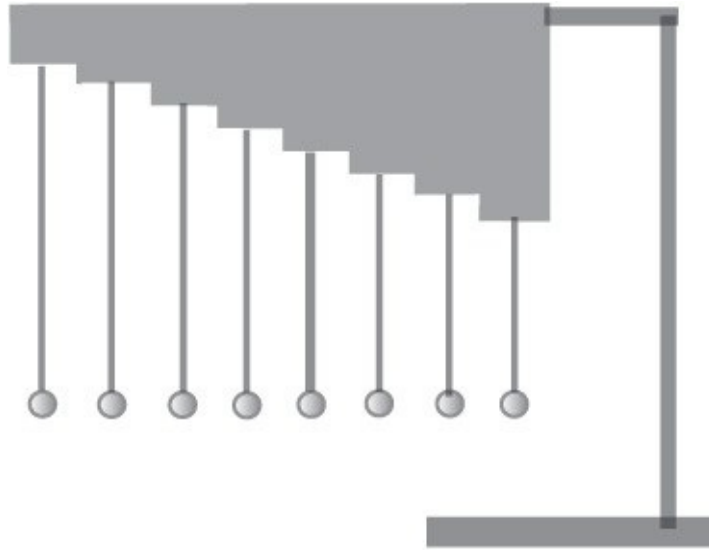

Figure 76-1 *Inverted staircase frame for pendulum wave.*
- frame, as shown in Figures 76-1 and 76-2, which allows the string for each successive mass pendulum to become progressively larger